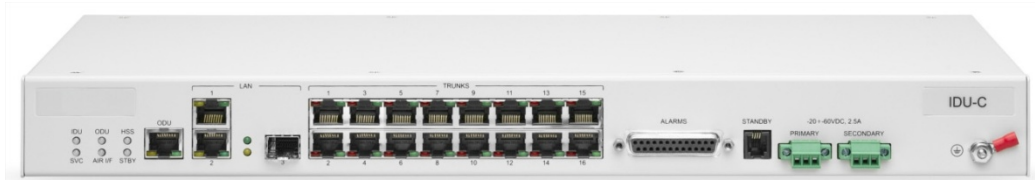

Figure 2: IDU-NetStream RM Package contents - the IDU-NetStream RM, 16 E1/T1 ports
- 19" rack mounting kit - see Figure 2 below